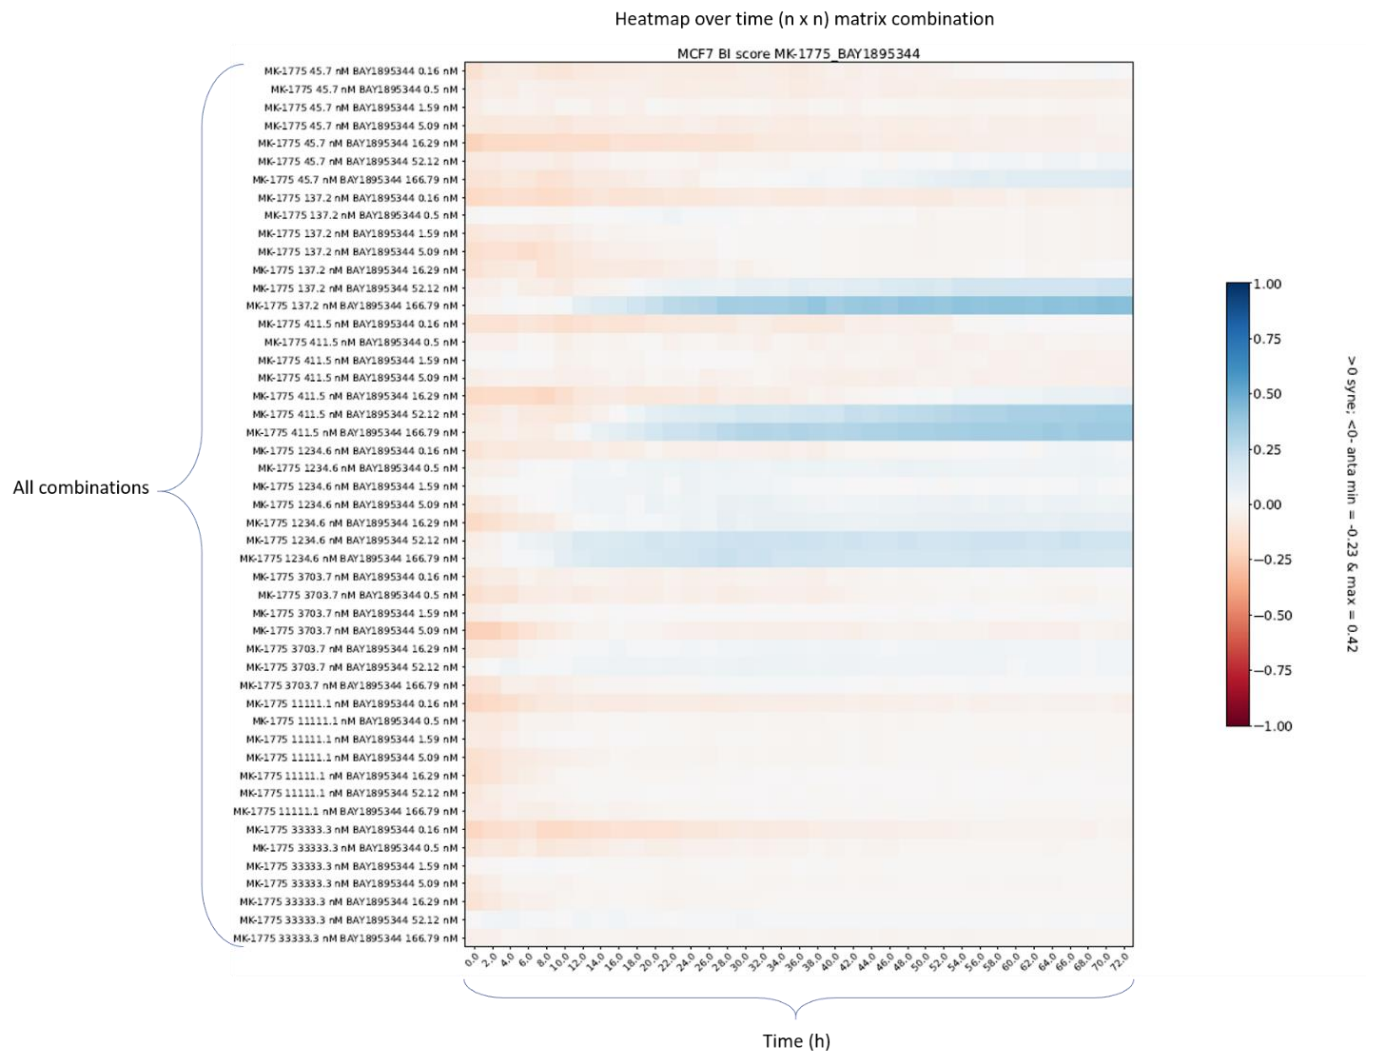

Figure 32: Heatmap over time for (n x n) matrix combination.
- (n x n) matrix combination Figure 32.